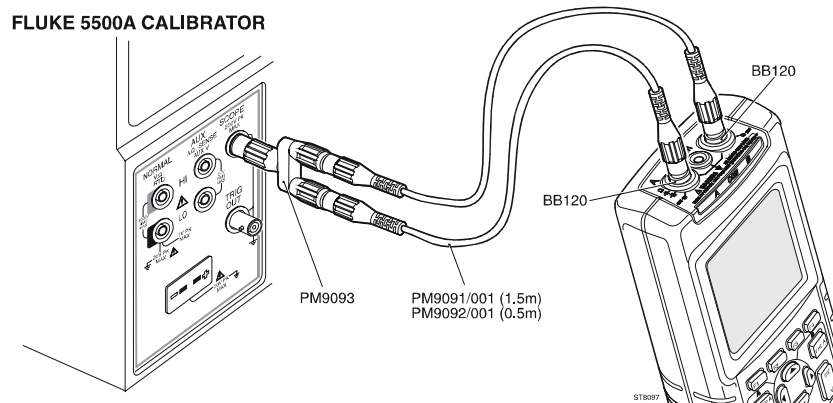

Figure 5-3. HF Gain Calibration Input Connections
2. Connect the test tool to the 5500A as shown in Figure 5-3. Do NOT use a 50 Ω termination!